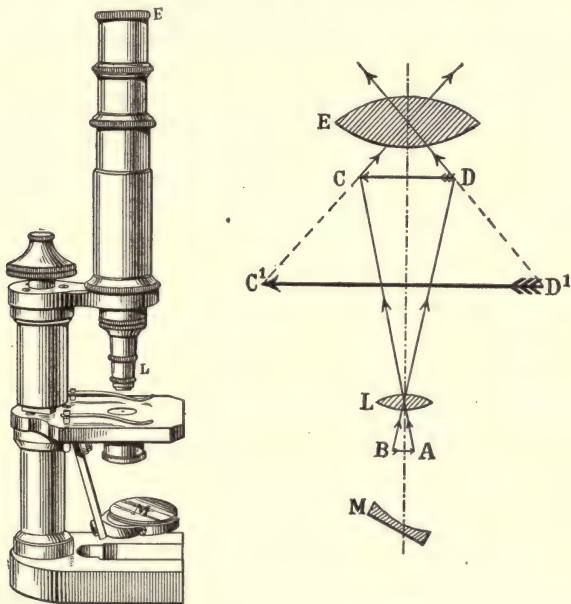

FIG. 436. — Compound microscope.
458. Compound microscope. Very small objects are made visible by the **compound microscope**. It consists of *two* lenses or lens systems which are placed at the ends of a tube. The object AB is put just outside the principal focus of the smaller lens L (Fig. 436), called the **objective**, which forms an enlarged, real image CD . This real image is then ex-
8. In a compound microscope the objective lens L (Fig. 436) has a focal length of one inch and the object AB is 1.1 inches away. How far from the lens is the image CD ? How many times is it magnified? If the eyepiece magnifies this image 20 times, what is the magnifying power of the instrument?